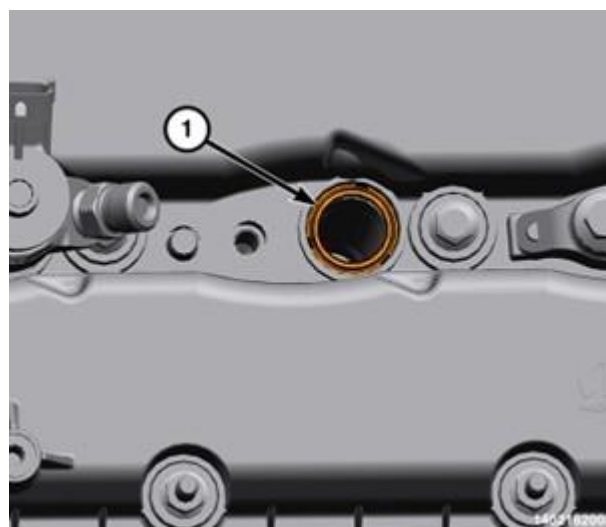

Figure 139 – Upper Sealing Washer
91. Install a **NEW** fuel injector seal (1) in the cylinder head cover (Figure 139).